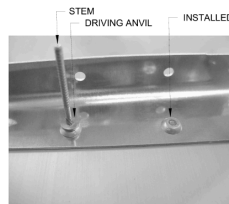

FIGURE 1: MANUFACTURED HEAD
This small washer like device located above the manufactured head is a critical component of the installation process and **must not be removed**. It will detach on its own after the stem breaks. See Figure 1.
Step 3: Insert rivet in hole and verify manufactured head fits square and flush to material surface. See Figure 1.
Step 5: Operate tool while taking care to not lean tool or bend rivet stem while doing so. Continue to pull rivet stem until it snaps free as shown in Figure 1.
Nearly flush surface due to stem fracture at top of manufactured head. See Figures 1 and 3.
Base of manufactured head should be tight against surface of material being riveted. See Figure 1.